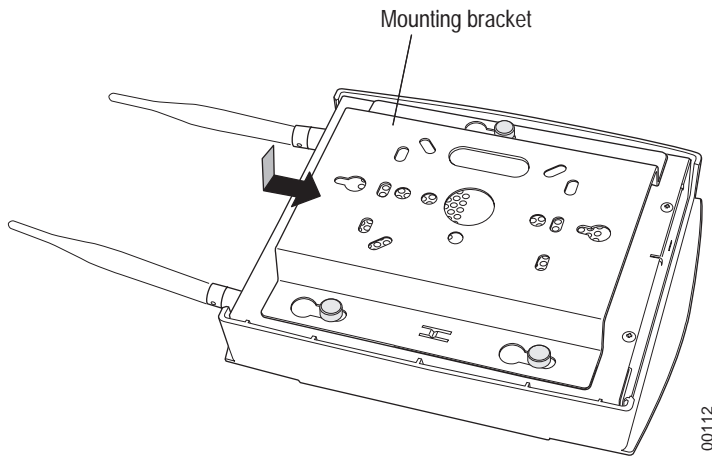

Figure 21: Sliding the AP150 into the Bracket
8. Align the AP150 mounting posts over the circular portion of the keyhole mounts, push the AP in and slide the AP down until it engages with the locking detents (see Figure 21). You should hear it snap in place.
10. Connect the posts of the AP150 to the three keyholes of the mounting bracket and slide into the keyhole (see Figure 21), ensuring the locking detent is engaged. You will hear a click.